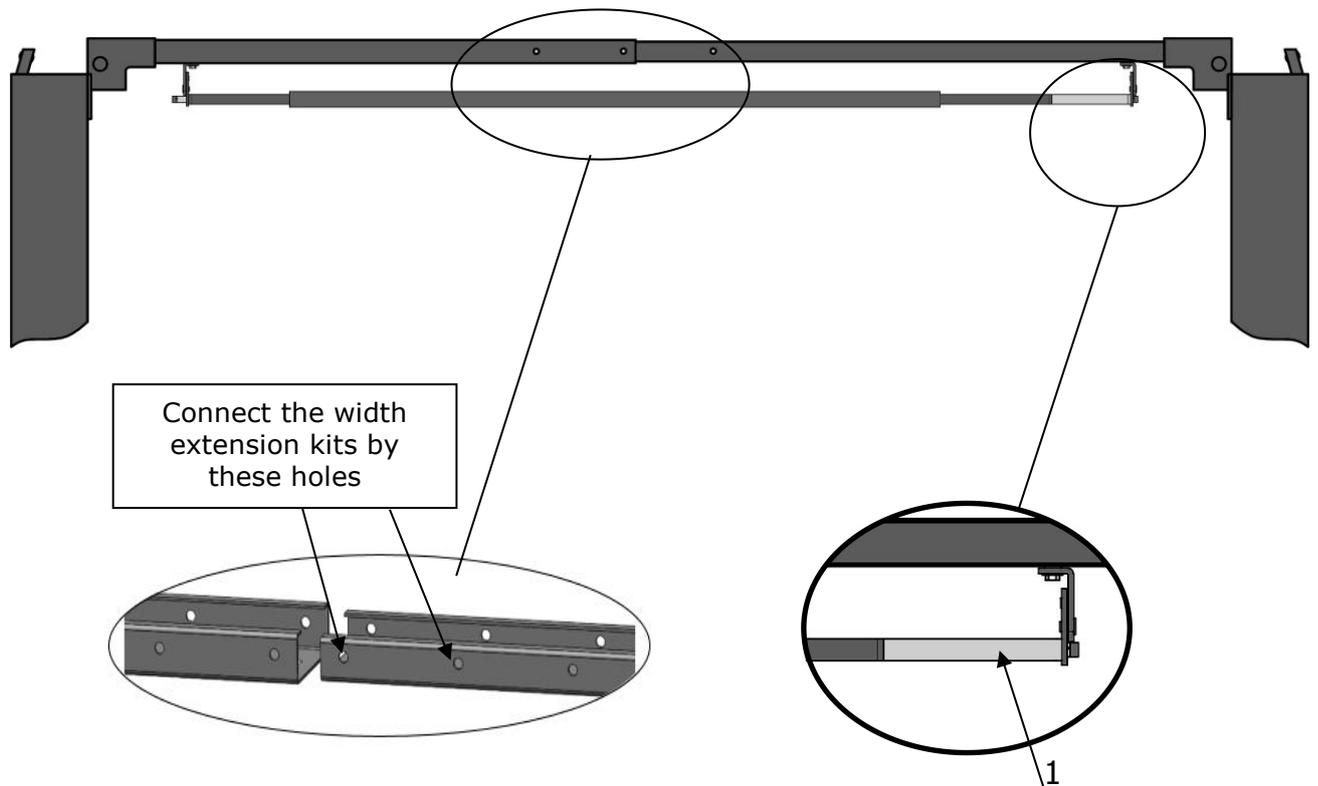

Fig. 47
1. Install the limit switch control bar and top beam (See Fig. 47).